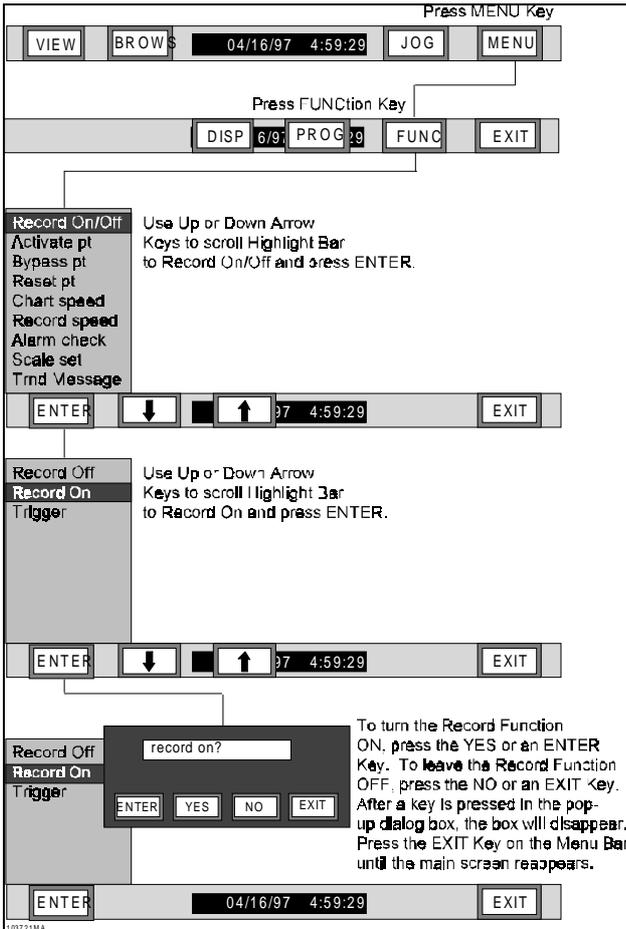

Figure 3-30 Turn Record Function to OFF Flow Chart
1. Record Off - This function enables you to stop the recording to disk irrespective of the state of any record triggers. Refer to Figure 3-30 and the following steps to turn the Record Function OFF: